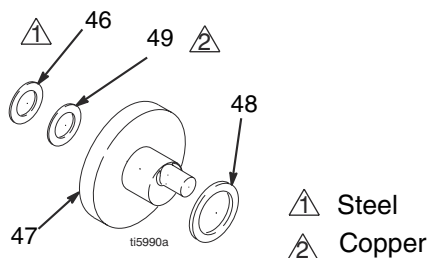

FIG. 3
1. Evenly lubricate inside of bronze bearing (C) in drive housing (43) with high-quality motor oil. Liberally pack top roller bearing (E), lower bearing (D) inside connecting rod (29) with bearing grease.
2. Assemble connecting rod (29) to drive housing (43). Rotate connecting rod to lowest position.
3. Apply grease to washers 46, 49 and 48. Install in order shown in FIG. 3.
6. Align connecting rod with crank (47) and carefully align locating pins in drive housing (43) with holes in pinion housing (44). Push drive housing onto pinion housing or tap into place with plastic mallet.